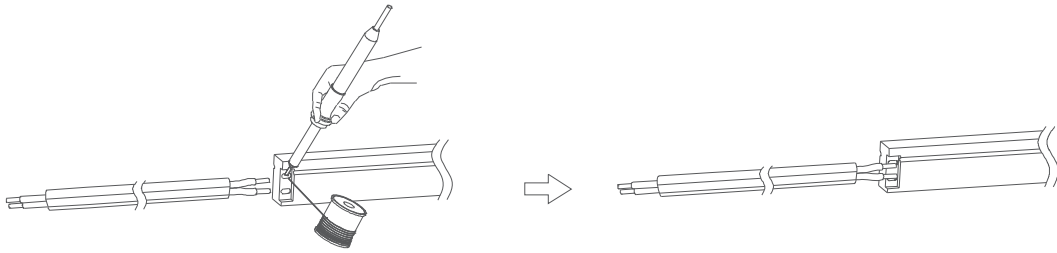

figure 6
- Use the soldering iron to weld the wire to the led strip bonding pad, as shown in Figure 6.